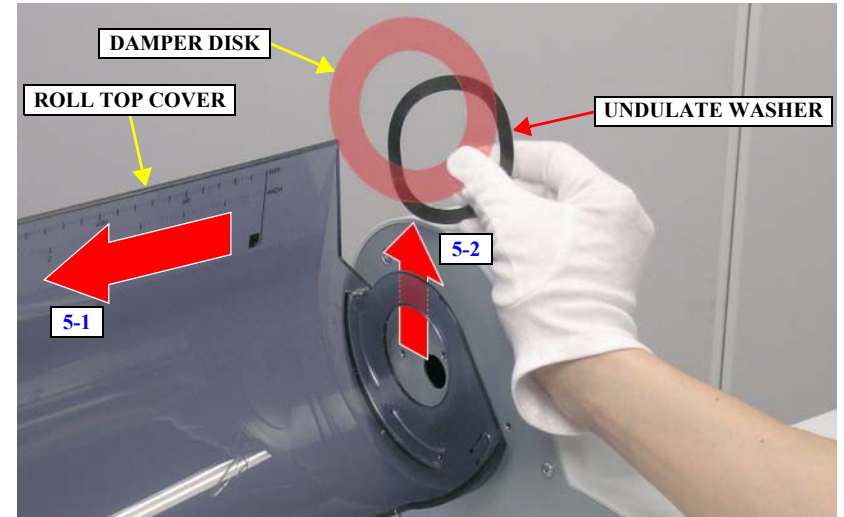

Figure 4-31. Removing the UNDULATE WASHER and DAMPER DISK
- Slide the ROLL TOP COVER leftward and remove the UNDULATE WASHER and the DAMPER DISK. See Figure 4-31.